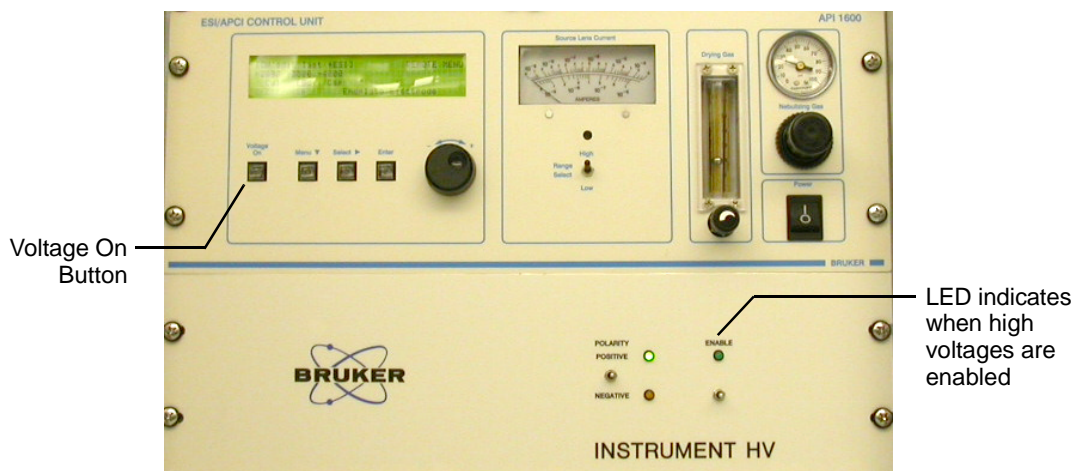

Figure 3-16 Location of the Voltage On Button
- The Enable LED on the Instrument HV unit lights up (Figure 3-16).
You may also be prompted to press the **Voltage On** button on the Source Control unit (Figure 3-16). This switch lights up to indicate that the source voltages have been turned on.